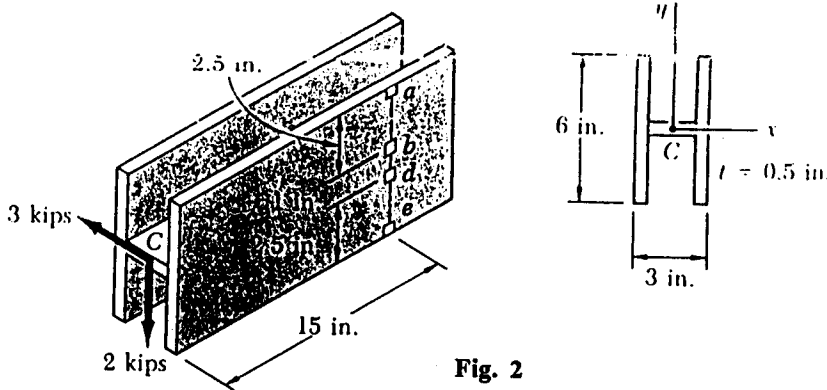

Fig. 2
2. (25pts) Three steel plates, each 0.5 in. thick, are welded together to form a cantilever beam. For the loading shown in Fig. 2, (a) determine the stress states at points a, b, d and e, (b) the principal and maximum shearing stress states at point b.